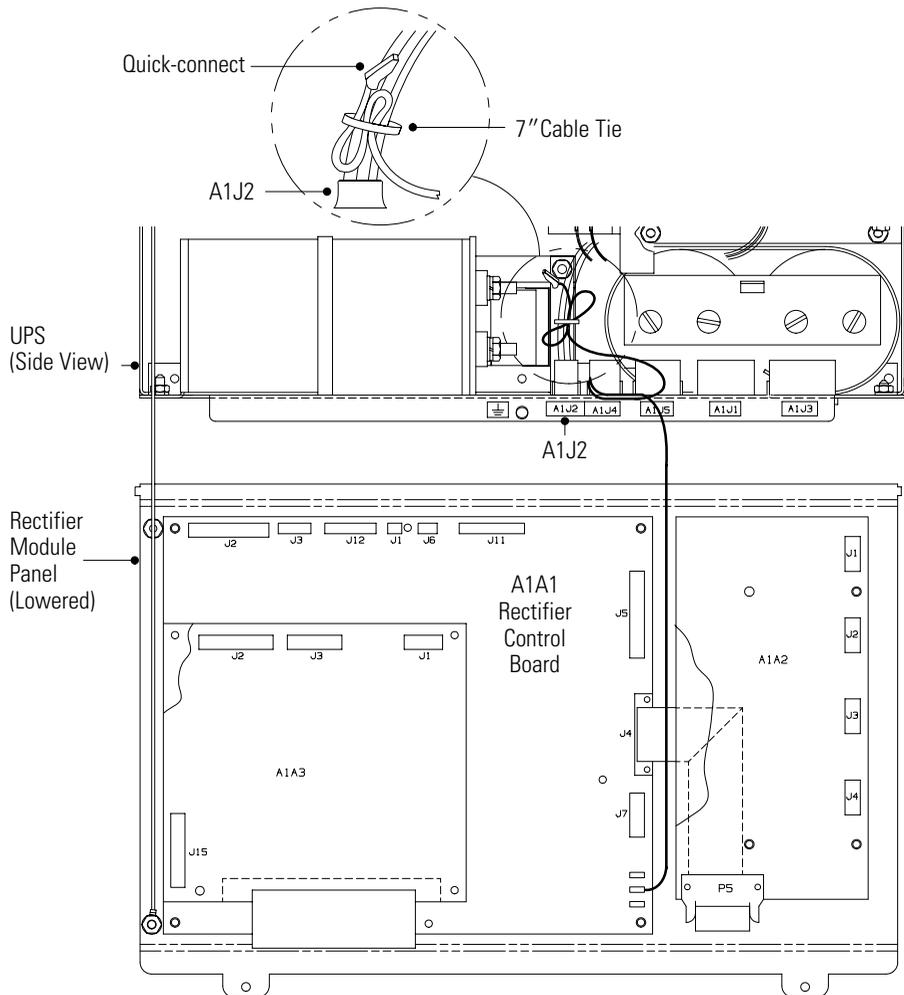

Figure 6. Charger Disabled on the 3 kVA – 6 kVA UPS
11. Secure the disconnected wire with the supplied 7" cable tie at A1J2 (see Figure 6). Verify the open end of the quick-connect is facing toward the interior of the Rectifier Module.